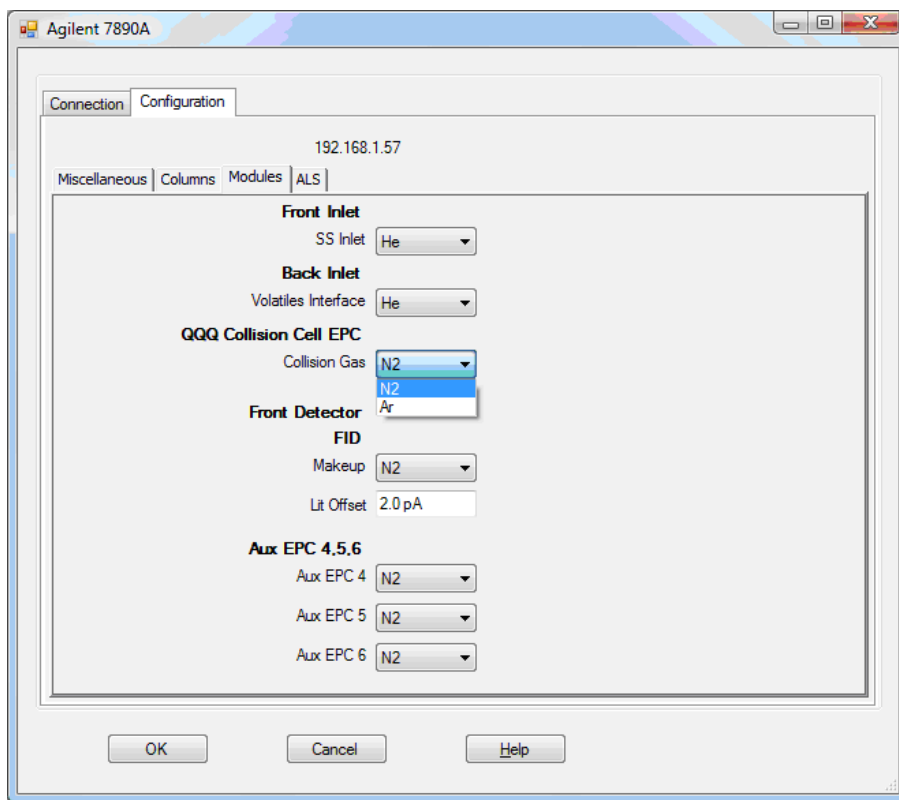

Figure 12 Configure collision cell gas
- 2 Select the **Modules** tab to display the screen. See Figure 12.